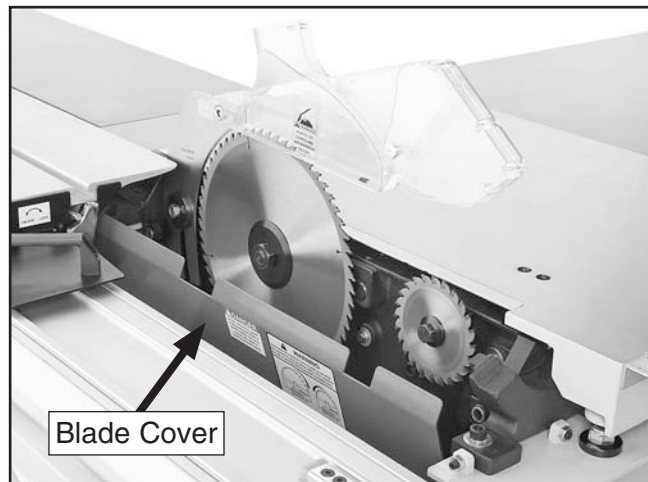

Figure 61. Blade cover open.
10. Push the STOP button, move the sliding table all the way to the left, then carefully open the red blade cover, as shown in **Figure 61**. This activates the blade cover safety switch to prevent the saw from starting while the cover is open.